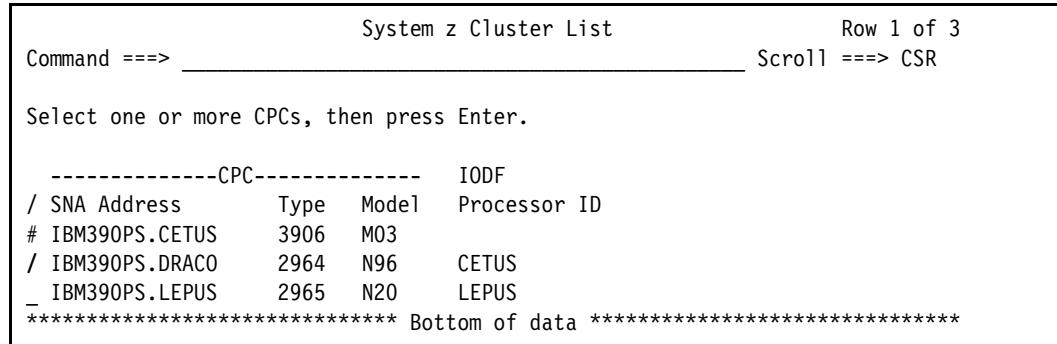

Figure 5-8 System z Cluster List: Selecting processor for IOCDS replace
- The System z Cluster List panel opens (Figure 5-8). In the list, select the 2964 being upgraded by typing a forward slash (/) next to it, and then press **Enter**.